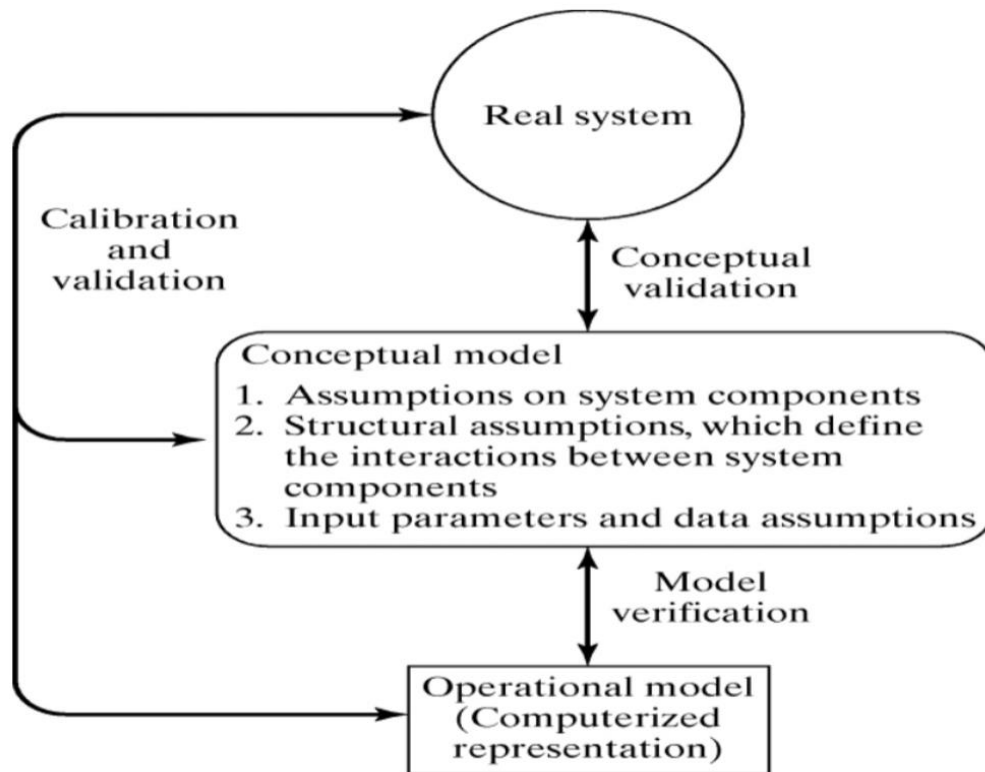

Figure 10.1 Model building, verification, and validation.
- Figure 10.1 depicts the ongoing model building process, in which the need for verification and validation causes continual comparison of the real system to the conceptual model and to the operational model and induces repeated modification of the model to improve its accuracy.